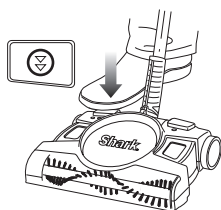

Fig. 4
- 2** You can adjust the speed of the brush roll to suit the floors that you are cleaning. Press the button on the right (opposite the On/Off button) to switch between speeds. One light indicates the speed optimized to clean bare floors and two lights indicate the speed optimized to clean carpets and larger debris on bare floors. (fig. 4)